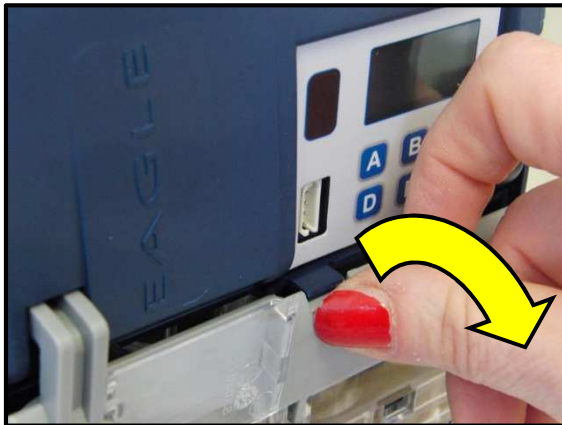

Fig.1A
2. Lift up the release latch and lower the winglet (Fig.1A).